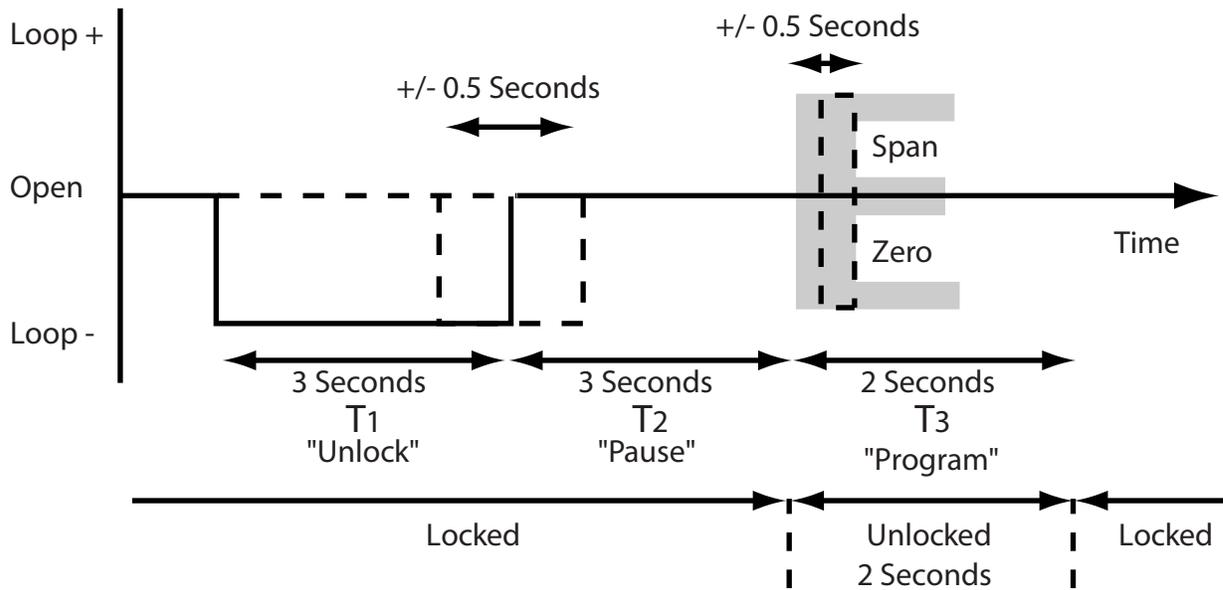

Figure 2-18
- 3.) Unlock the configuration program by “Shorting” the White Program Wire (Blue in EU) to the Black Loop "-" Wire for three (3) seconds. See figure 2-18 for full timing sequence.
- 4.) Release the Short for three (3) seconds
- 5.) Set Zero or Span by “Shorting” either the (4mA) Black Loop "-" Wire (Blue in EU) or by “Shorting” the (20mA) Red Loop "+" Wire (Brown in EU) to the White Program Wire for two (2) seconds.
- 1.) Unlock the configuration program by pressing the Zero pushbutton for three (3) seconds. See figure 2-18 for full timing sequence.
- 2.) Release the Zero pushbutton for three (3) seconds
- 3.) Set Zero or Span by pressing either the Zero pushbutton or by pressing the Span pushbutton for two (2) seconds.
- 4.) The DM330 Series “Locks” the programming menu after ten (10) seconds from time of entering the program.